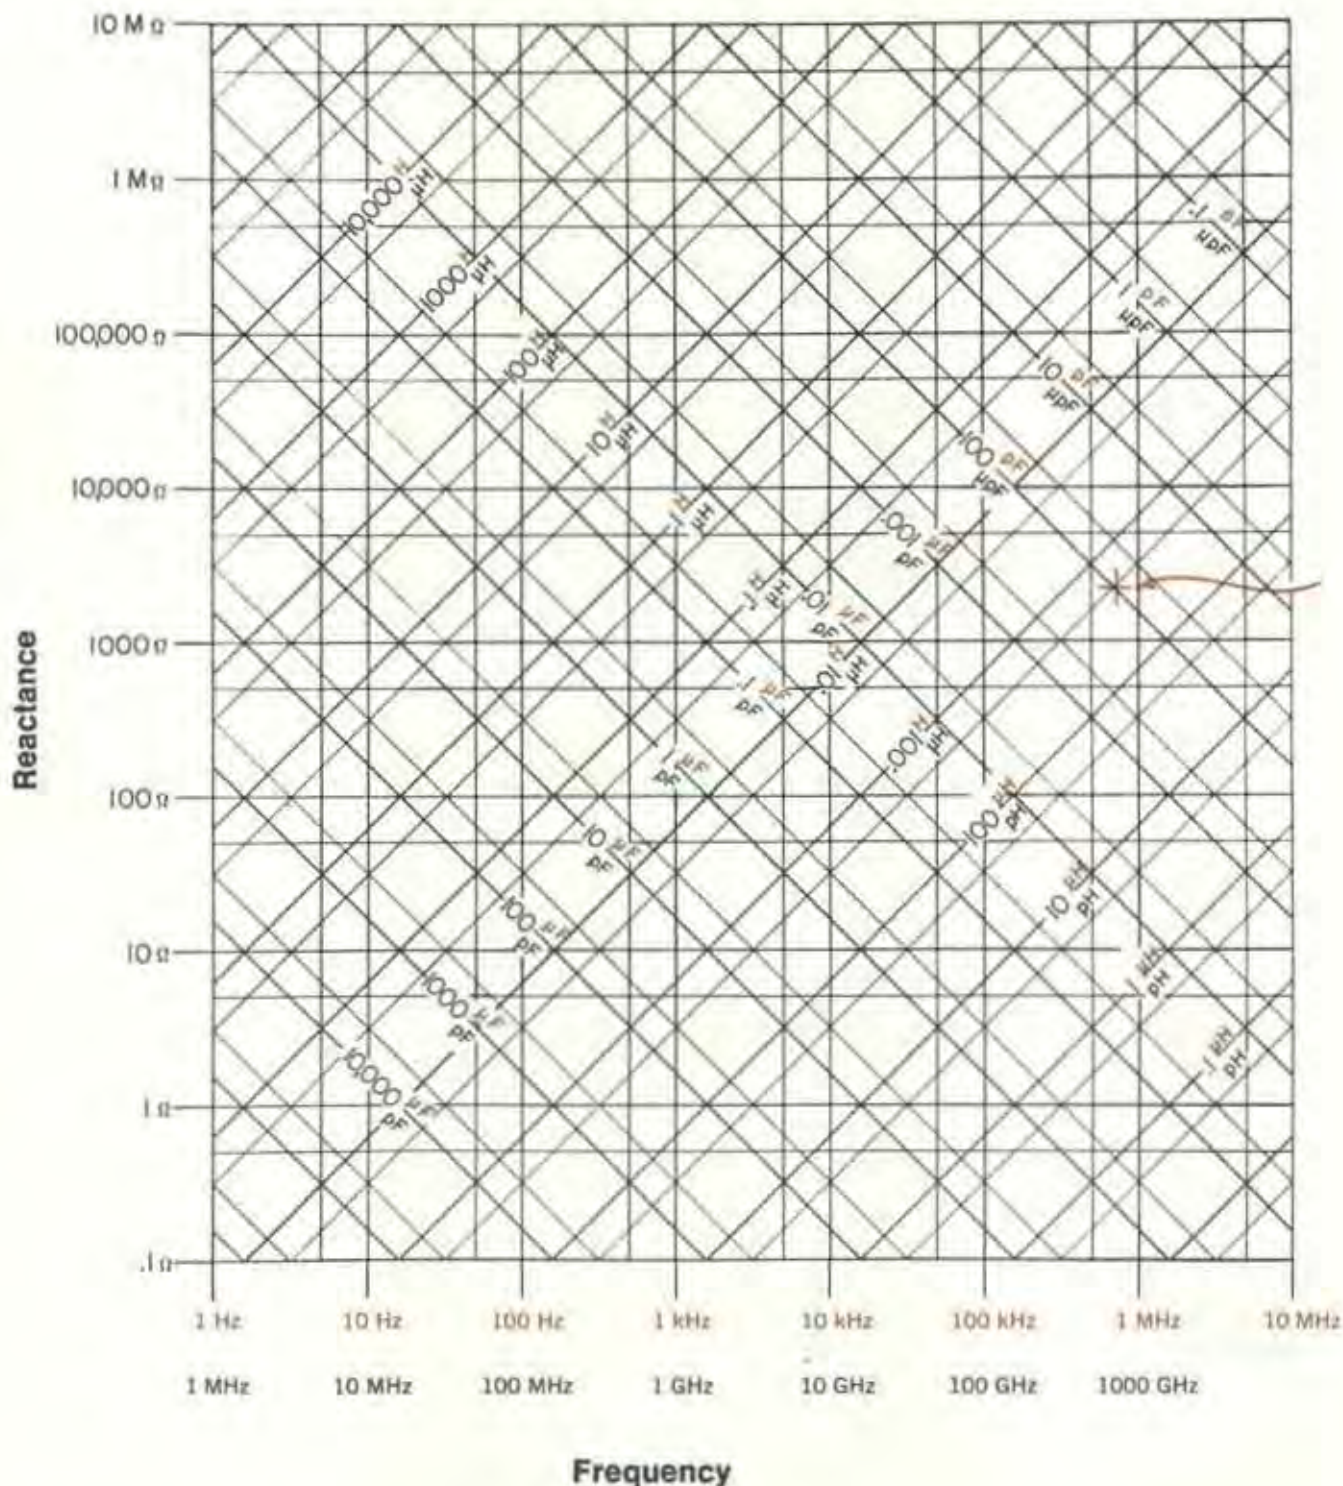
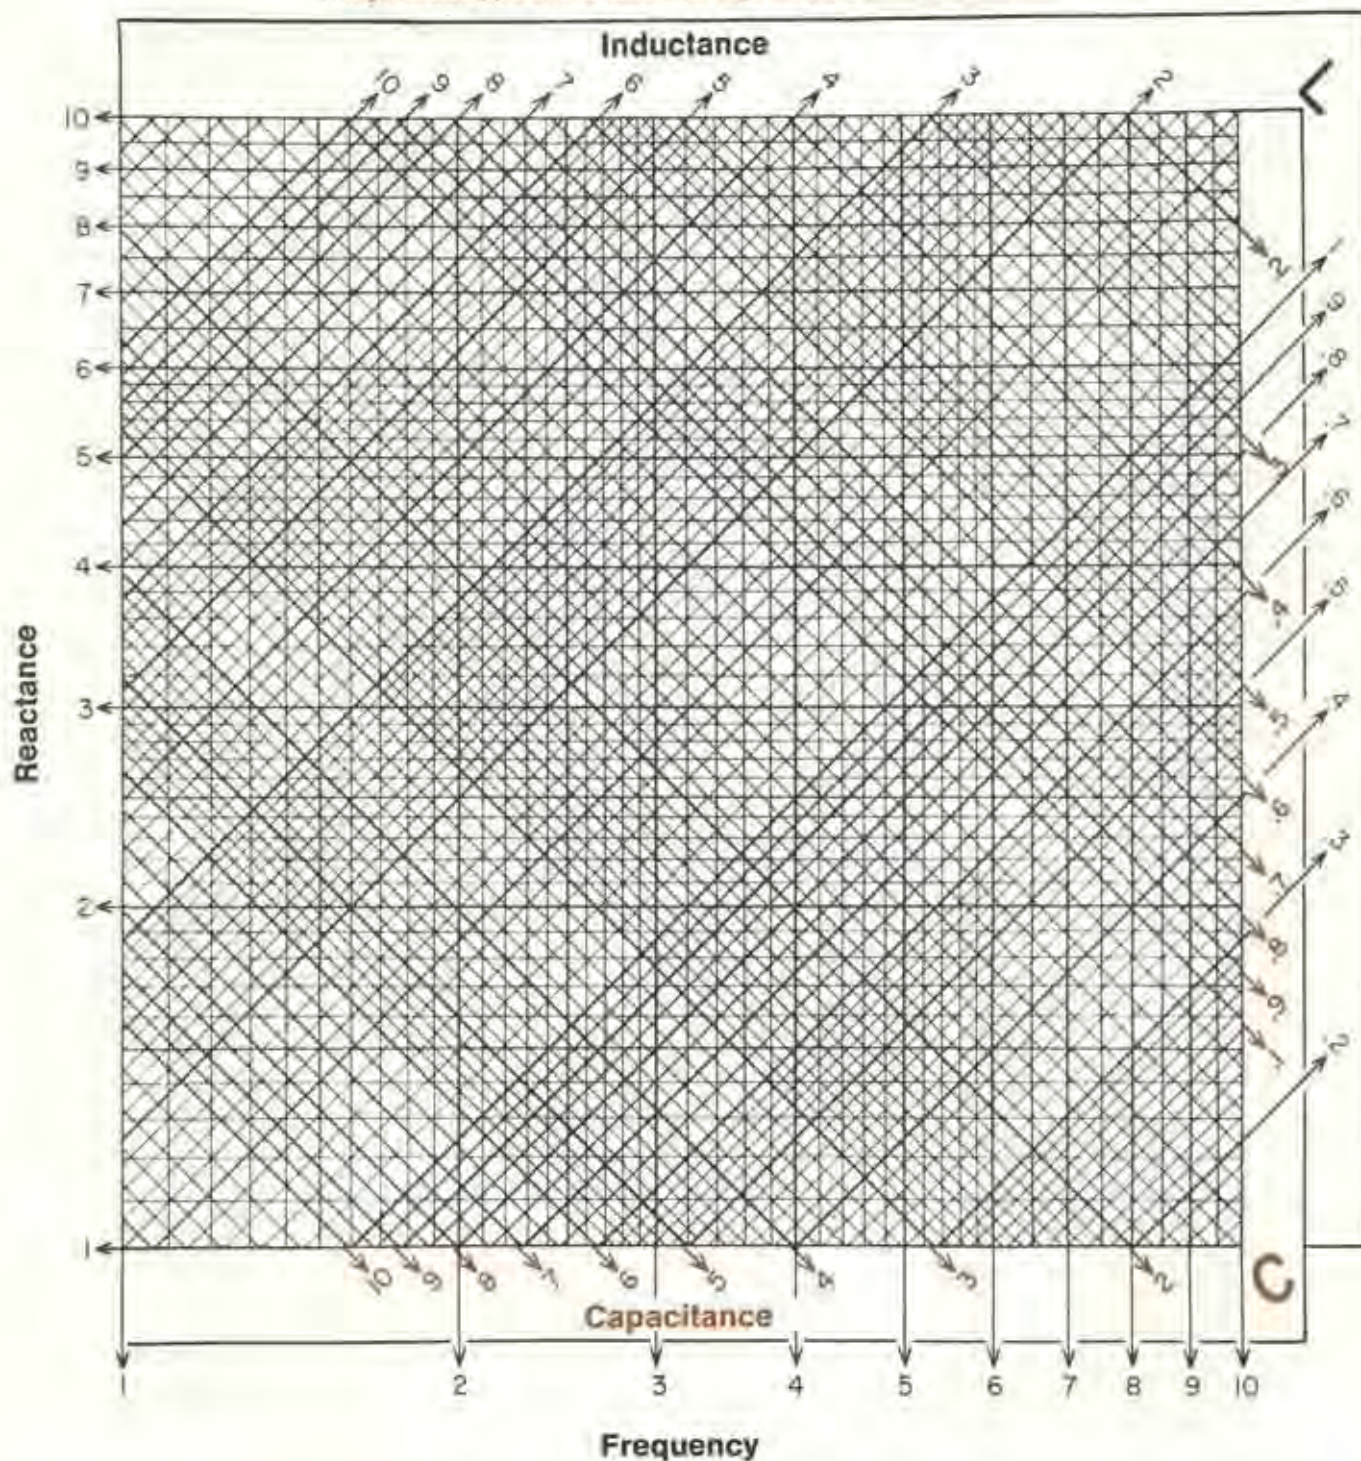

FIGURE 1
FIGURE 2
Figure 1 is the complete chart, used for rough calculations. Figure 2, which is a single decade of Figure 1 enlarged approximately 7 times, is used where two or three significant figures are to be determined.
Always obtain approximate value from Figure 1 before using Figure 2
**Example:** The point indicated in Figure 1 corresponds to a frequency of about 700 kHz and an inductance of 500  $\mu\text{H}$ , or a capacitance of 100 pF, giving in either case a reactance of about 2000 ohms. The resonant frequency of a circuit containing these values of inductance and capacitance is, of course, 700 kHz, approximately.
**Use of Figure 2**
Figure 2 gives additional precision but does not place the decimal point, which must be located from a preliminary entry on Figure 1. Since the chart necessarily requires two logar-
ithmic decades for inductance and capacitance for every single decade of frequency and reactance, unless the correct decade for L and C is chosen, the calculated values of reactance and frequency will be in error by a factor of 3.16. In Figure 2, the capacitance scale is color; inductance scale is black.